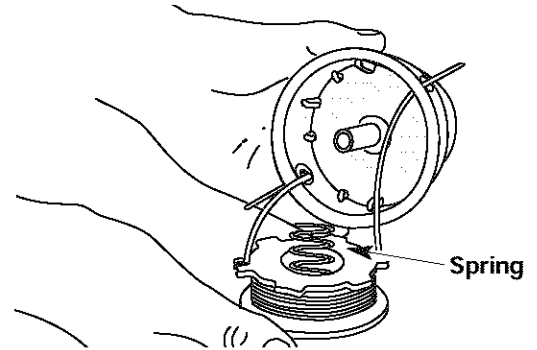

Fig. 24
13. Insert the ends of the line through the eyelets in the outer spool and place inner reel with spring inside the outer spool (Fig. 24). Push the inner reel and outer spool together. While holding the inner reel and outer spool, grasp the ends and pull firmly to release the line from the holding slots in the reel.
5. Insert the ends of the line through the eyelets in the outer spool (Fig. 24).